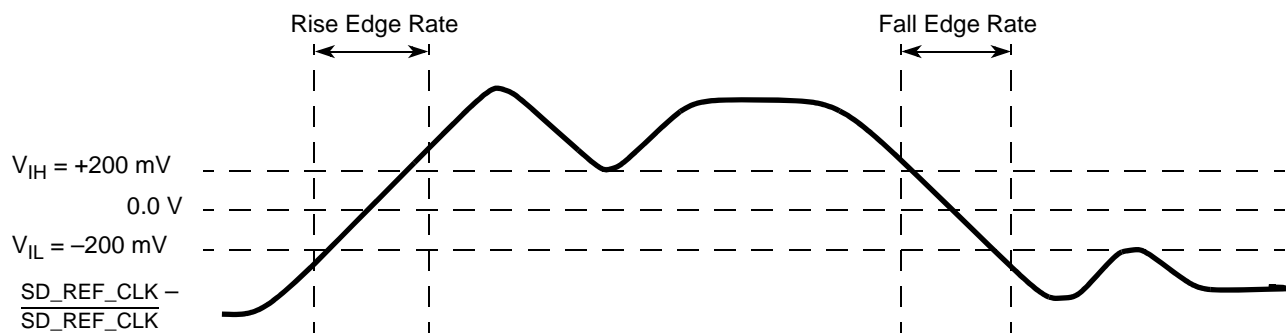

Figure 52. Differential Measurement Points for Rise and Fall Time
1. The differential waveform is constructed by subtracting the inverting signal ($\overline{SDn_TX}$, for example) from the non-inverting signal (SDn_TX , for example) within a differential pair. There is only one signal trace curve in a differential waveform. The voltage represented in the differential waveform is not referenced to ground. Refer to Figure 52 as an example for differential waveform.
3. Measured from -200 mV to +200 mV on the differential waveform (derived from $\overline{SDn_REF_CLK}$ minus $\overline{SDn_REF_CLK}$). The signal must be monotonic through the measurement region for rise and fall time. The 400 mV measurement window is centered on the differential zero crossing. See Figure 52.